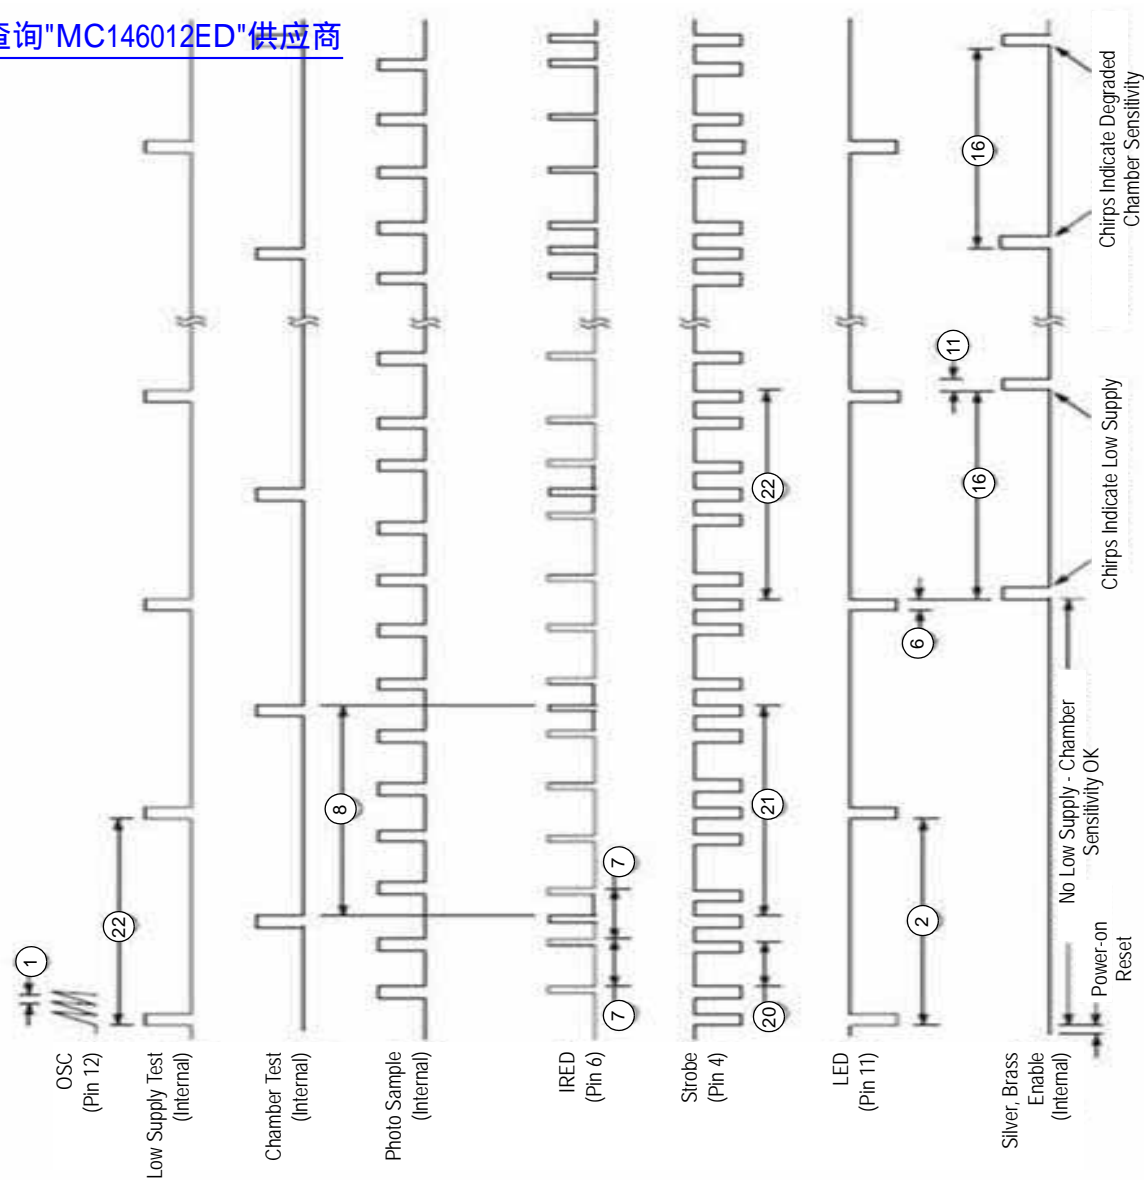
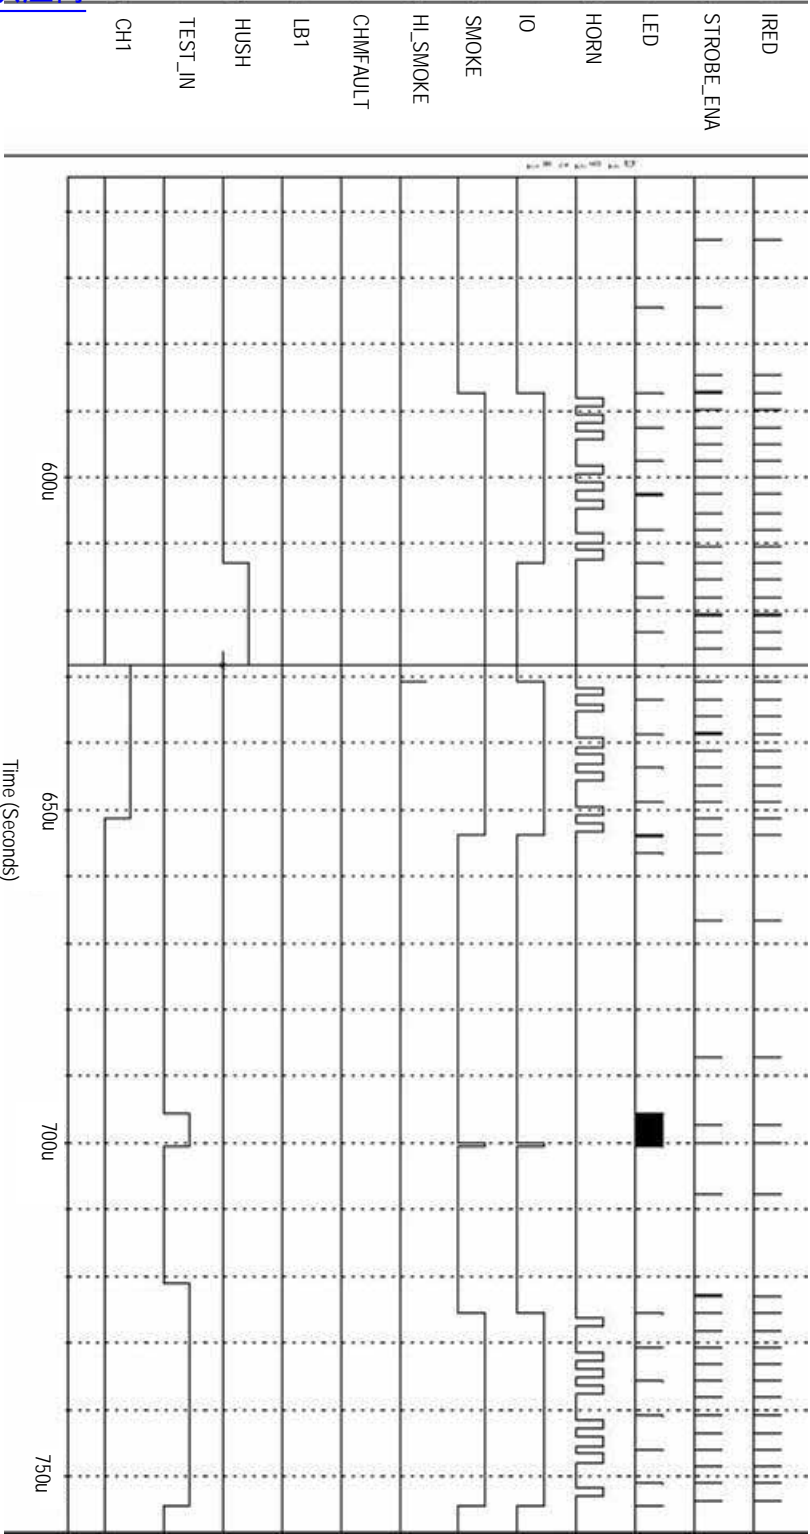
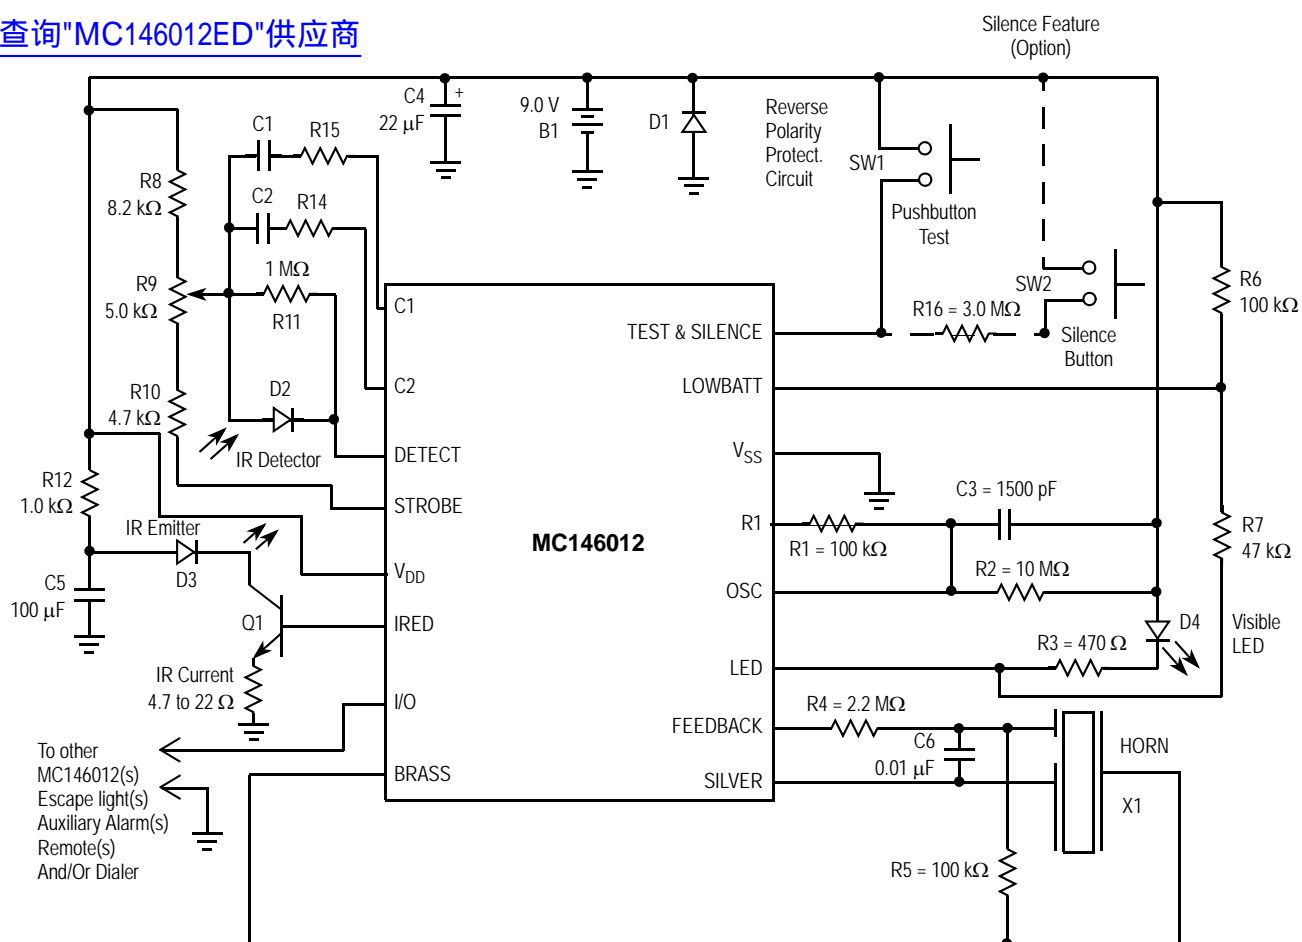

Figure 3. Typical Standby Timing Diagram MC146012 Device
Figure 4. Typical Local Smoke Timing MC146012 Device
Figure 5. Typical Battery Powered Application
* $T_A = 25^\circ\text{C}$ Only**Table 3. AC Electrical Characteristics** (Refer to Timing Diagram Figure 3 and Figure 4. $T_A = 25^\circ\text{C}$, $V_{DD} = 9.0\text{ V}$, Component Values from Figure 5.)
Table 3. AC Electrical Characteristics (Refer to Timing Diagram Figure 3 and Figure 4. $T_A = 25^\circ\text{C}$, $V_{DD} = 9.0\text{ V}$, Component Values from Figure 5.) (continued)
A capacitor connected to this pin as shown in Figure 5 determines the gain of the on-chip photo amplifier during pushbutton test and chamber sensitivity test (high gain). The capacitor value is chosen such that the alarm tripped from background reflections in the chamber during pushbutton test.
A capacitor connected to this pin as shown in Figure 5 determines the gain of the on-chip photo amplifier during pushbutton test and chamber sensitivity tests.
The Detect input must be ac/dc decoupled from all other signals, V_{DD} and V_{SS} . Lead length and/or foil traces to this pin must be minimized also. See Figure 3.
The LED also provides a visual indication of the detector status as follows, assuming the component values shown in Figure 4:
In the Calibration mode, the IRED pulse rate is increased. An IRED pulse occurs every clock cycle. Also, Strobe is always Active Low. It is recommended to short R12 (Figure 5) in this mode. This will allow for a similar recovery of the emitter circuitry as in normal operation. Pin 1, pin 2, and pin 12 should be buffered with a unity gain amplifier to measure their outputs.